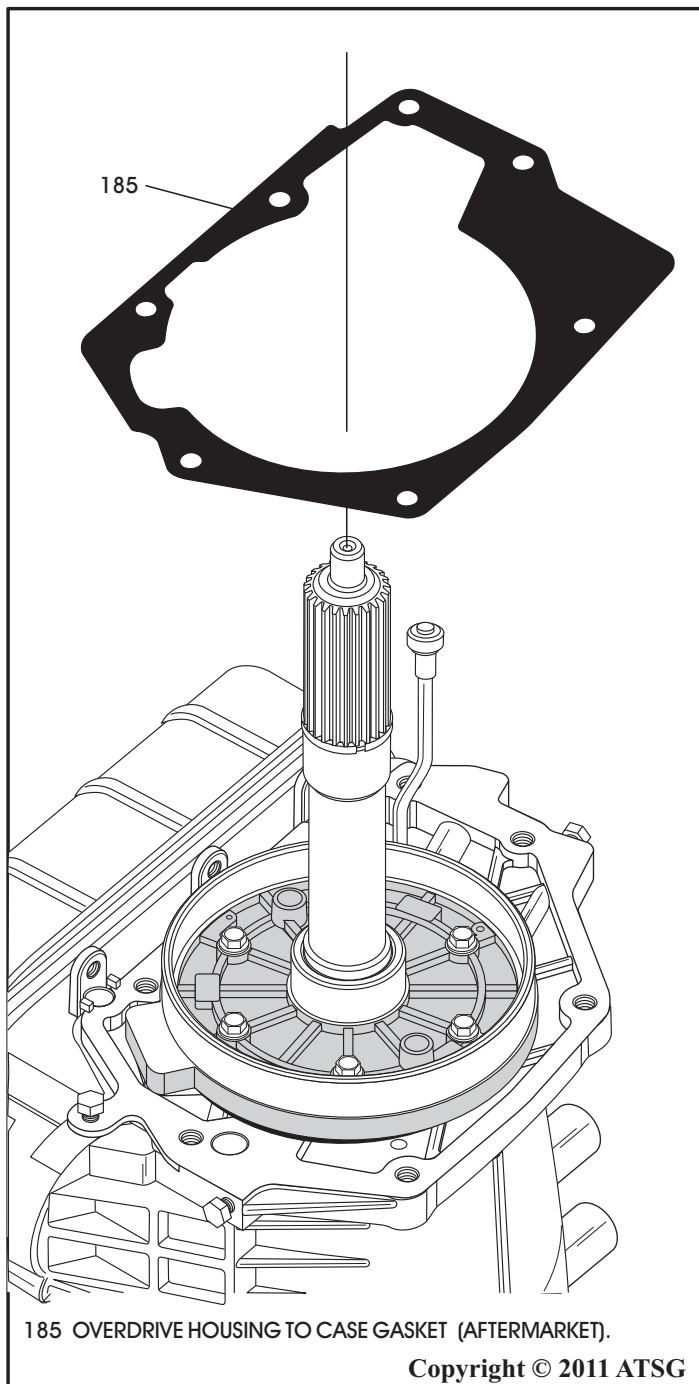

Figure 230
42. Stand the completed transmission upright on the bell housing, as shown in Figure 230.
43. Install new overdrive housing to case gasket, as shown in Figure 230, and retain with a small amount of Trans-Jel®.